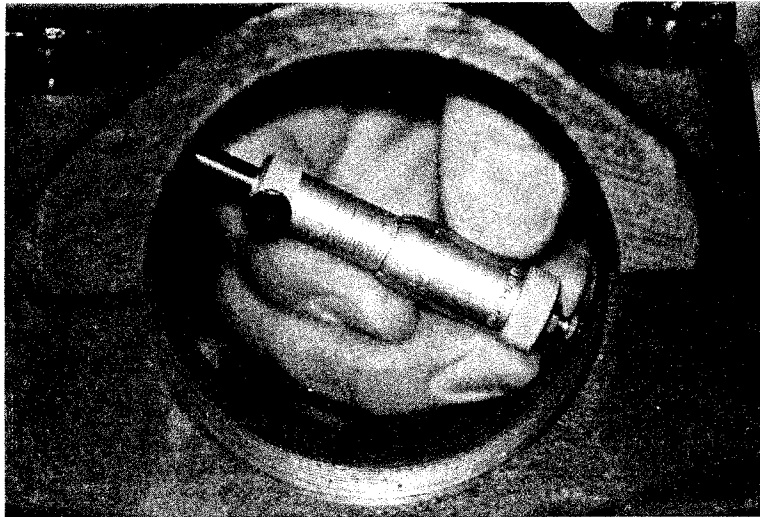

FIGURE 2
1. With the differential case, ring gear, and carrier bearings removed from the carrier, install a carrier bearing cap and torque to manufacturer's specification. Measure with an inside micrometer and record the bore dimension, "A" in the worksheet. See Figure 2 and Figure 7. This measurement can be taken with a dial caliper, however, accuracy is lower.